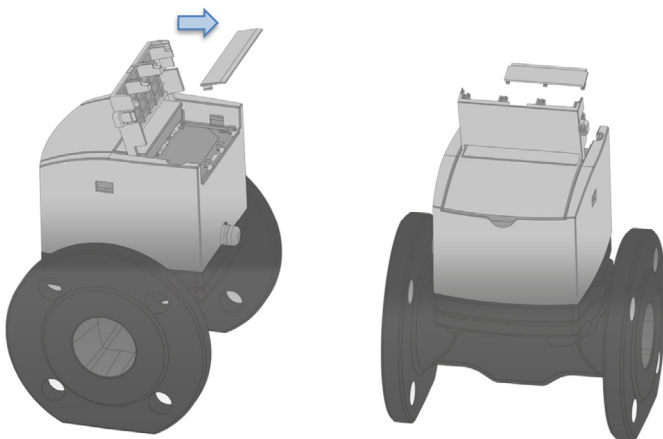

Fig. 29: Exchanging protective cover in order to add a new module
Step 2: Exchange protective cover on the module lid, see Fig. 29.
If additional NFC modules shall be added to the meter, the protective cover on the module lid needs to be exchanged. Remove the cover from the opened module lid by pulling it outward as shown in Fig. 29. Separate module covers for one or two slots are available. If one module shall be placed on the meter, the two remaining slots need to be covered. If two modules are placed on the meter, only one remaining slot needs to be covered. Connect the suitable protective cover to the module lid such that the NFC slots on which a module will be placed remain uncovered. The cover will click in place when pushed onto the module lid.